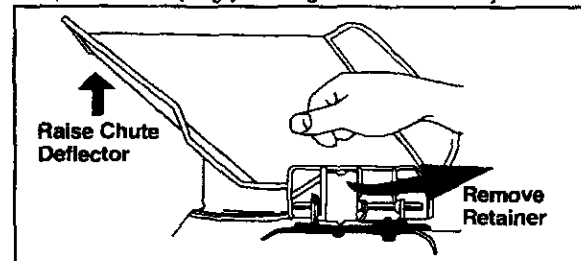

Figure 12
- Push the chute deflector up and towards the engine. Holding the deflector in this position, remove the retainer. See Figure 12.